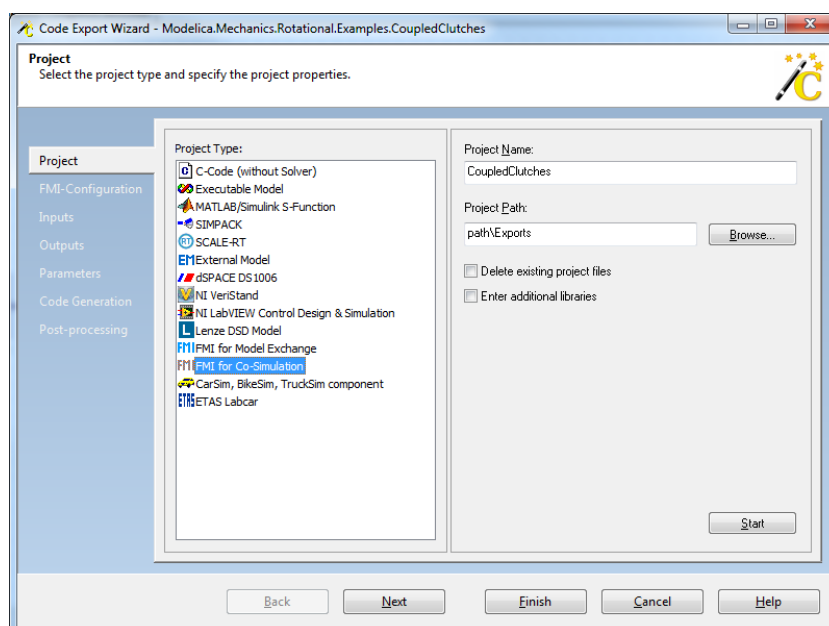

Figure 2: First Page of Code Export Wizard.
7. The first page of the code export wizard will show three columns: An enumeration of different FMU parameters on the left, the type column in the middle (which specifies the parameters), and a column on the right which will show the final parameters. Choose the project type "FMI for Co-Simulation" in the middle column, assign the name "CoupledClutches", and enter the project path "*<path>*\Exports" in the right column. Compare to Figure 2. Click "Next".